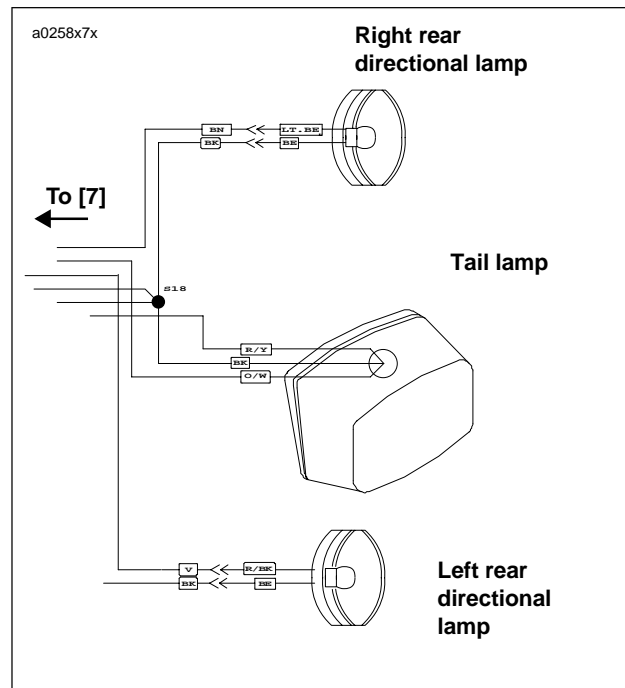

Figure 7-72. Rear Turn Signal Connections
2. See Figure 7-72. Disconnect two bullet connectors on turn signal wires.
- Attach two bullet connectors on turn signal wires as shown in Figure 7-72.